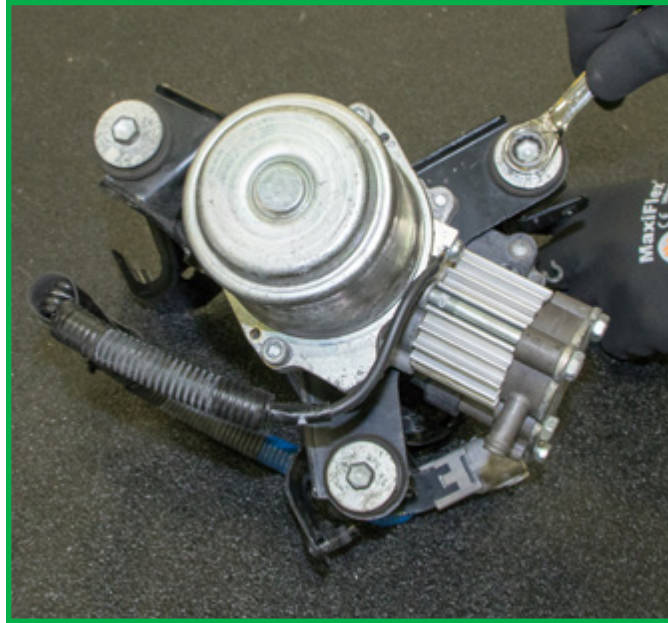

FIGURE 10
1. Remove the three bolts from the compressor bracket. (Figure 10)